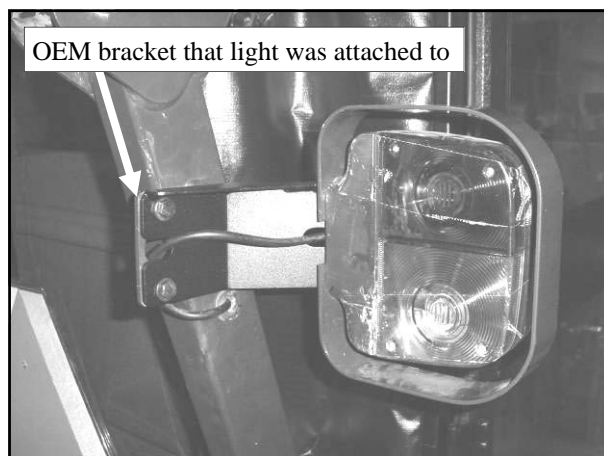
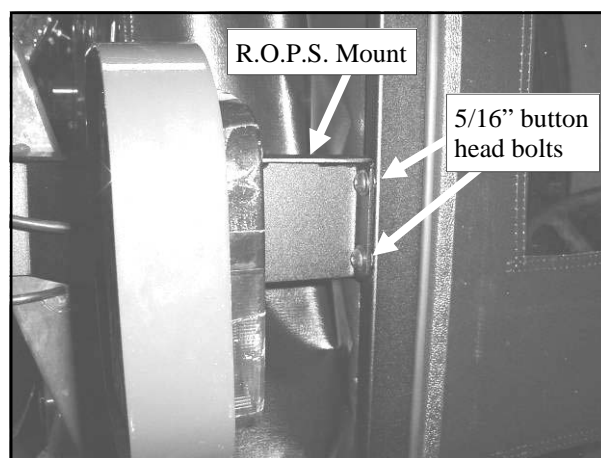

Fig. 8.2a (view from right rear side of tractor)
Fig. 8.2 (view from right side of tractor)
8.2 Per fig. 8.2 and 8.2a, install the right side R.O.P.S. mount to connect the back of the right side frame to the bracket that the light was initially mounted to. Mount the R.O.P.S. bracket to the rear of the right side frame as shown in fig. 8.2 using the following hardware: two 5/16 x 1" long button head bolts, two steel washers, and two plastic washers. Fasten the other end of the R.O.P.S. mount to the tractor while feeding the light wire safely thru the slot as shown in fig. 8.2a. Use the following hardware: two 5/16" x 1" long hex head bolts, four steel washers, and two locknuts. Using the OEM bolts, re-attach the light and frame to the middle of the R.O.P.S. mount oriented so the red light is up and the frame protects the rear of the light more so than the front as shown in fig. 8.2. Tighten all six bolts.